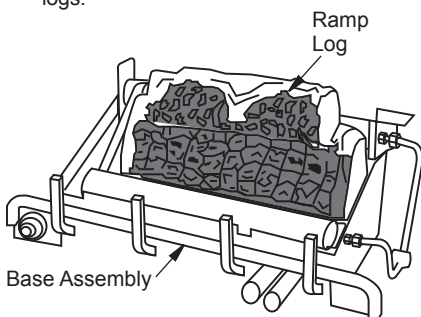

Figure 23 - Installing Log Set
1. Place fiber ramp-log in center on chassis as shown in Figure 23. The fiber ramp-log can be identified by its shape and much lighter weight when compared to the other logs.